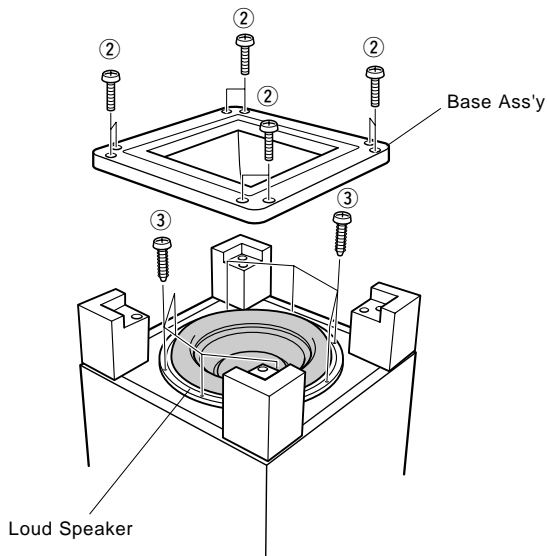

Fig. 2
- a. Remove 8 screws (②) and then remove the Base Ass'y in Fig. 2.
- b. Remove 8 screws (③) and then remove the Loud Speaker in Fig. 2.